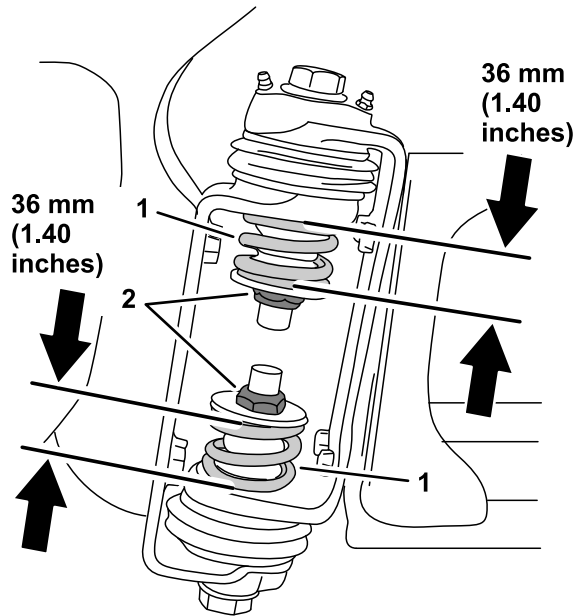

Figure 2
6. At the boom hinge, measure the compression of the upper and lower springs while the booms are in the extended position (Figure 2).